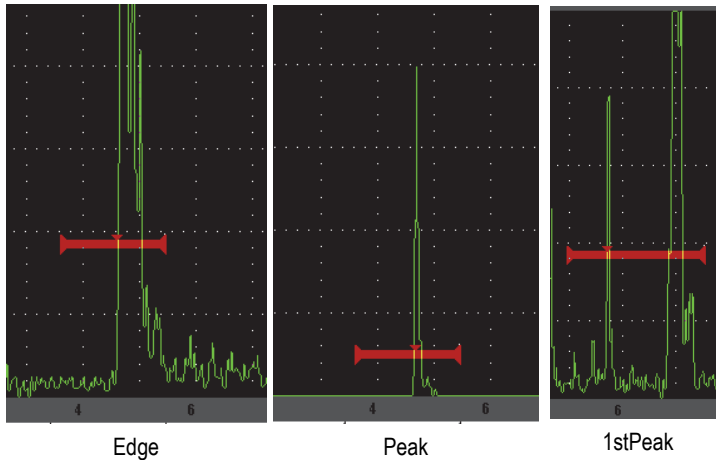

Figure 2-11 Measurement trigger in Edge, Peak, and 1stPeak modes
- **Peak:** Acquires measurement readings based on the highest peak within the gated region (does not have to cross the gate threshold) [see Figure 2-11 on page 46].
- **1stPeak:** Acquires measurement readings based on the first peak to cross the gate threshold (level) [see Figure 2-11 on page 46].
- **Edge:** Acquires measurement readings based on the position of the first crossing point of a gated signal (see Figure 2-11 on page 46).